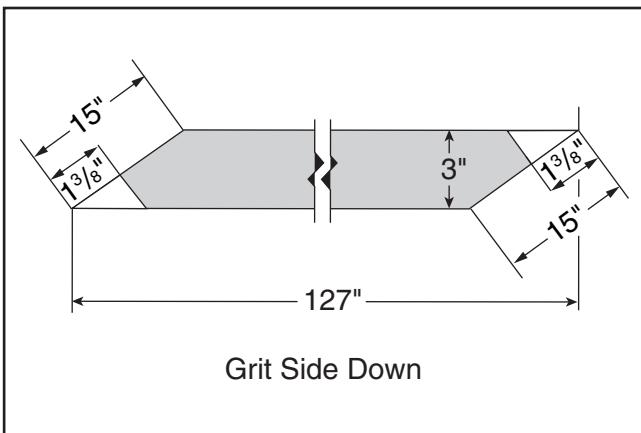

Figure 39. Sandpaper pattern for drum.
Note: Take care not to rip or tear old sandpaper, so it can be used as template when cutting out replacement sandpaper strip. This is easier than using drawing shown in **Figure 39**.
- Use old sandpaper strip as pattern, if at all possible. Otherwise, use pattern in **Figure 39** to cut new piece of sandpaper to necessary shape. After cutting 15" angled sides, measure $1\frac{3}{8}$ " along same sides and cut off ends with knife.